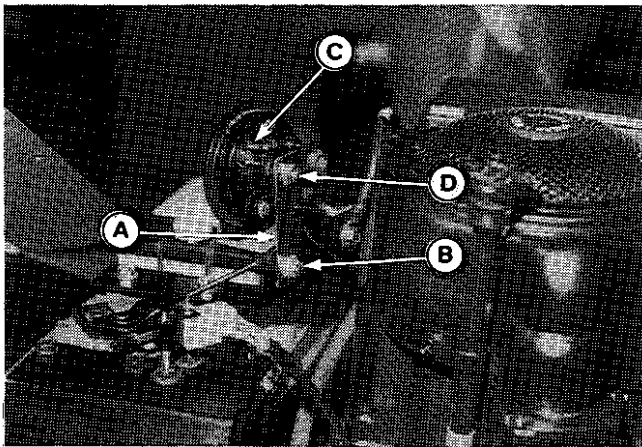

Figure 2.
1. Install the two mounting plates (A, figure 2) together and install onto the shift cable mounting bracket using the 1/4 flange whizlock nut and 1/4-20 x 5/8 capscrew (B).
2. Mount the horn by inserting it through the mounting plates (A) and installing lockwasher and nut (D). Then, connect one end of the 45 inch black wire to, either horn terminal (C).